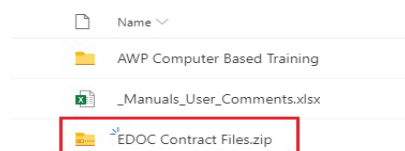

Figure 2-1: EDOC Contract Files.zip
1. Using Internet Explorer, go to the SharePoint Construction Crew Portal, Construction Crew Documents, and click the **EDOC Contract Files.zip** file (Figure 2-1).